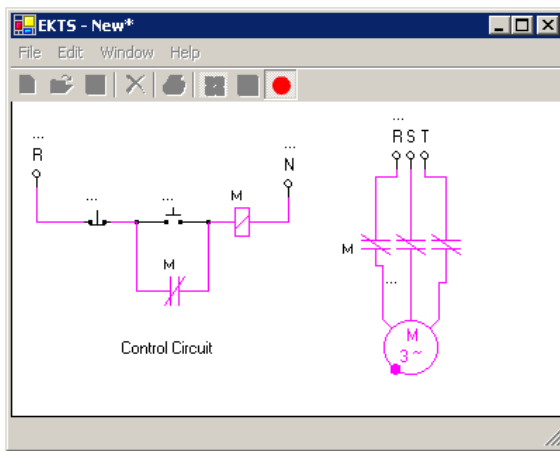

Figure 12 Run mode of the designed circuit.
2. **Print preview dialog** window will appear as shown in Figure 12.